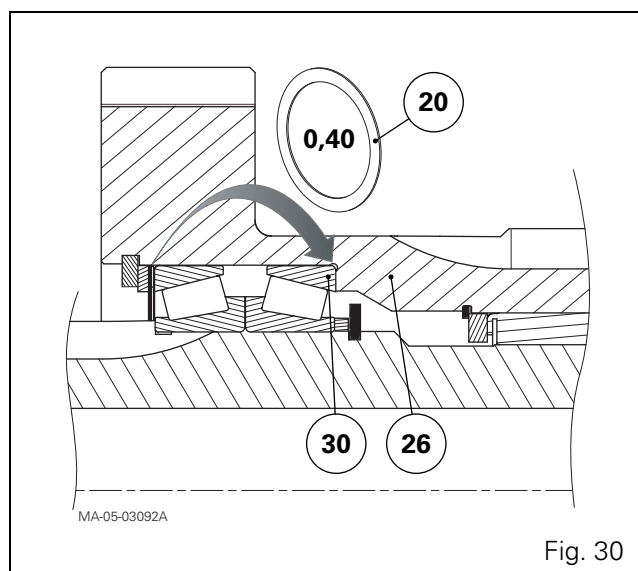

Fig. 30
- If $B > 16.33$: take out one 0.40 mm shim (20) used to shim the pinion (26), and place it between the pinion (26) and the cup (30) (Fig. 30).